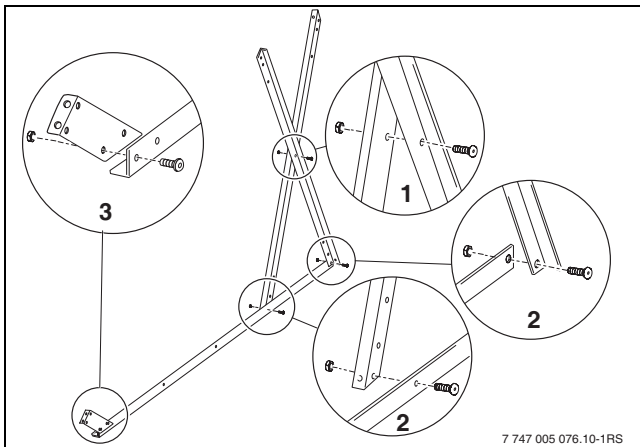

Fig. 10 Securing the support rails
- ▶ Join two cylinder support rails together in the centre to form a cross (Fig. 10, [1]), and fit to the lower support rail [2] in such a way that the surface lying on the ground comes to face inwards.
- ▶ Secure lower support (Fig. 10, [3]) to the end of the lower support rail.